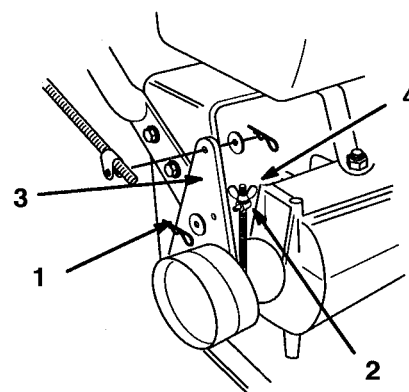

Figure 25
3. To adjust the brake remove the cotter pin and washer from the brake lever (Fig. 25).
4. Rotate the wing nut so the trunnion smoothly slides into brake lever (Fig. 25).
5. Secure trunnion to brake lever with washer and cotter pin (Fig. 25).